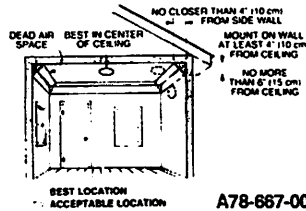

Figure 4: RECOMMENDED SMOKE DETECTOR MOUNTING LOCATIONS
- Put detectors as close to the center of the ceiling as possible. If this is not practical, put the detector on the ceiling, no closer than 4 inches (10 cm) from any wall or corner. See Figure 4.
- If ceiling mounting is not possible and wall mounting is permitted by your local and state codes, put wall-mounted detectors between 4 and 6 inches (10 and 15 cm) from the ceiling. See Figure 4.
- In dead air spaces. Dead air spaces are often at the top of a peaked roof, or in the corners between ceilings and walls. Dead air may prevent smoke from reaching a detector. See Figures 4 and 5 for recommended mounting locations.